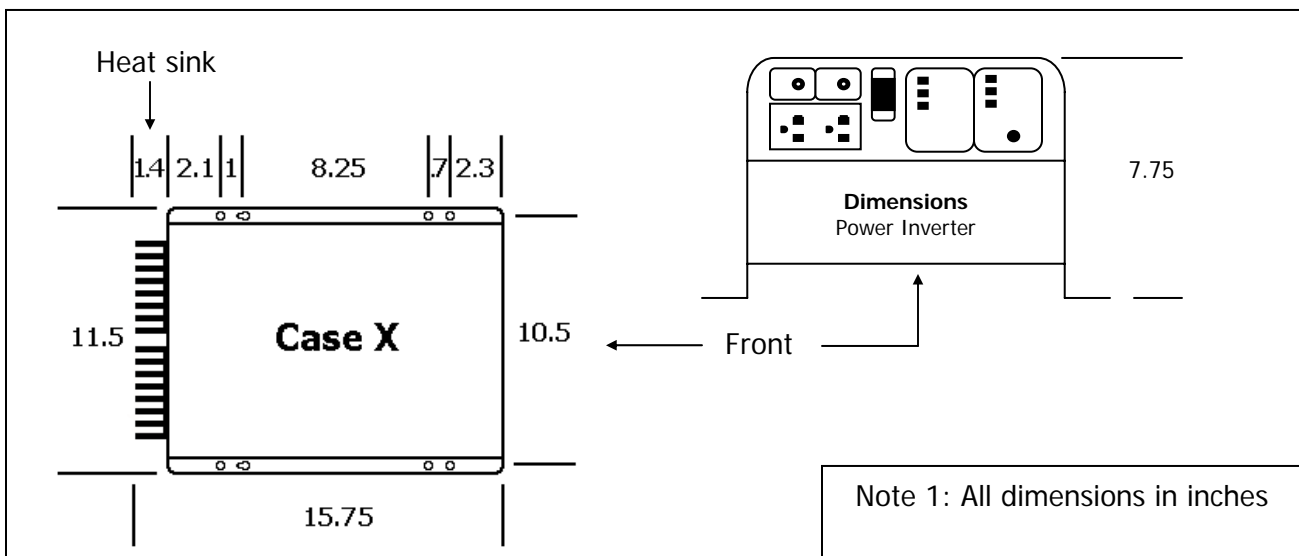

FIGURE 6: Inverter footprint
- Locate the keyholes at the rear of the chassis flanges and fasten them using 1/4 inch diameter screws. See figure 6, inverter footprints on this page below.